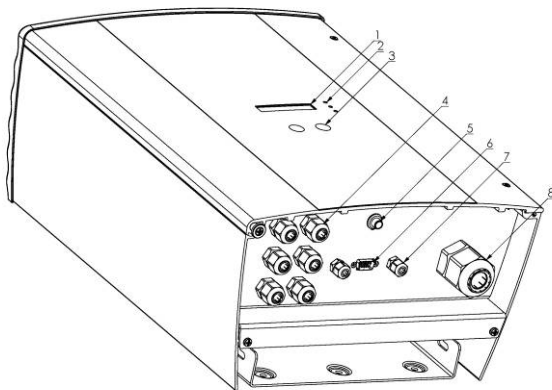

Figure 4.1
To enable remote monitoring of your photovoltaic installation, Powador inverters are additionally equipped with an RS 485 interface see Figure 4.1
The inverters of the Powador xi-series are equipped with an illuminated LCD display (see Fig. 4-1).
Figure 4.1 – (1). This display shows all measured values and data. In normal operation the background illumination is de-activated. As soon as you press one of the keys the background illumination will be activated. If 10 seconds elapse without a key being pressed, the background illumination will be switched off again.